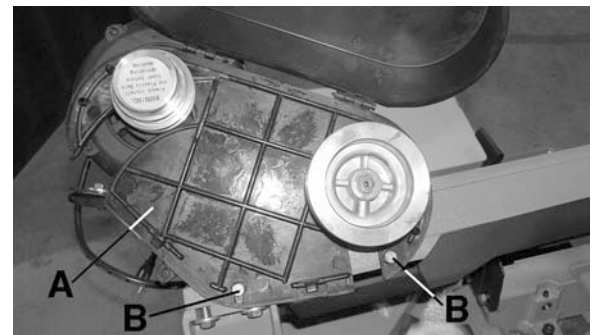

FIGURE 8
- 1) Place the belt and pulley cover fixing plate (A) Fig.8 around the pulleys as shown in Fig.8 and fix it into place with 2 hex. bolts (B).